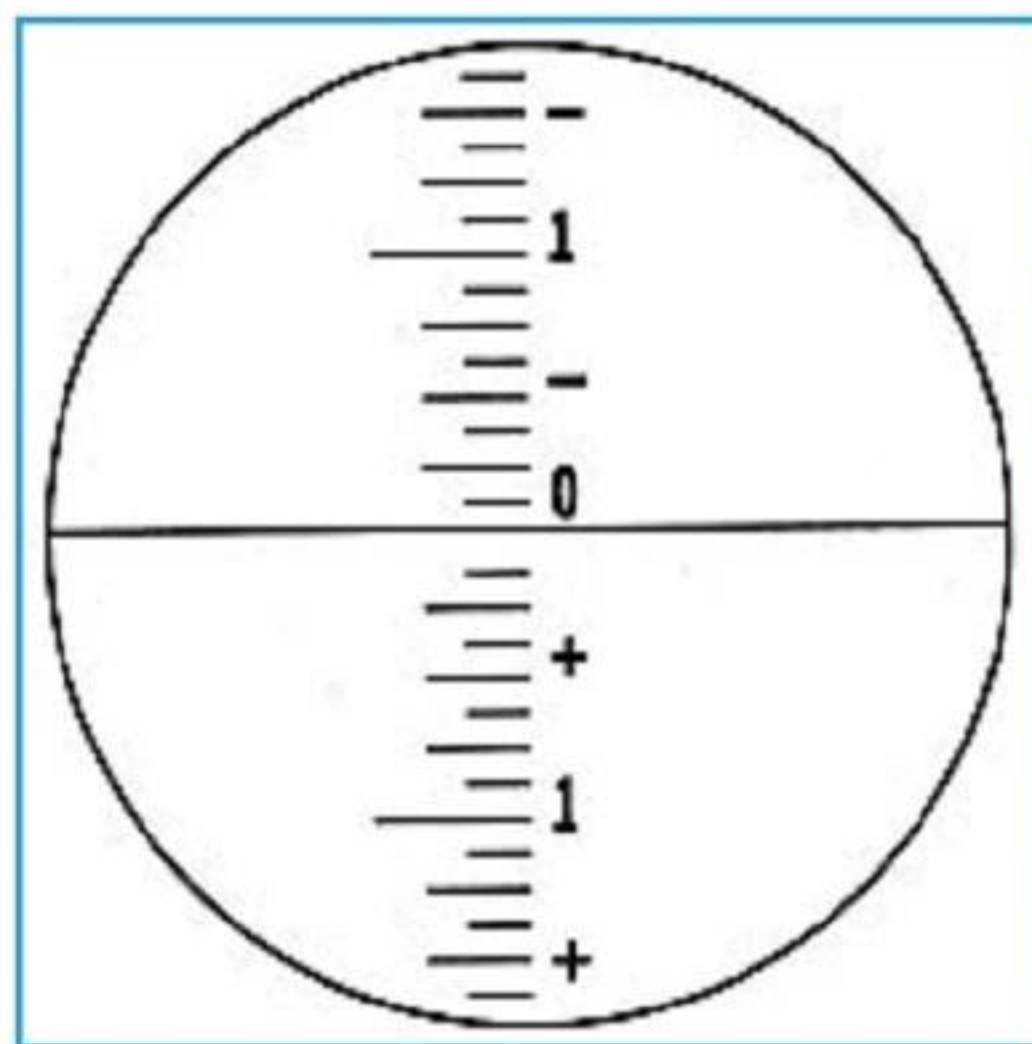

Fig. 5
3.3 Reading division board (Fig. 5)